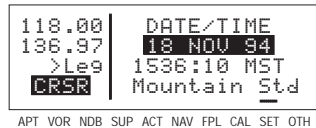

Figure 4-186
2. Turn on the cursor. The cursor will be over the entire date field (figure 4-186).